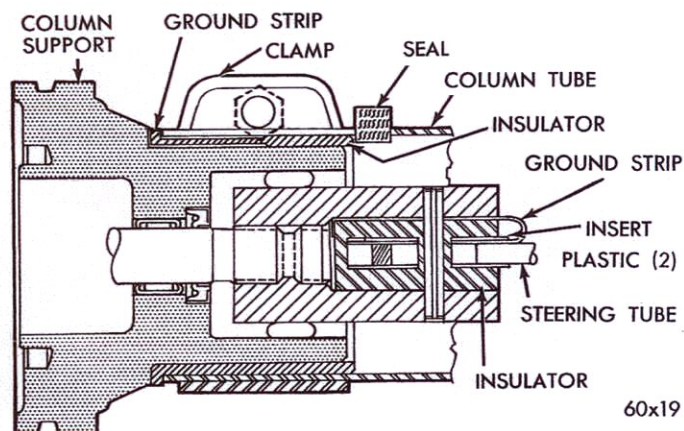

Fig. 14 - Jacket Tube Support and Steering Column Tube (Cross Section)
(14) Remove the steering column tube coupling pin, two plastic inserts, horn ground strap (Fig. 14) rubber insulator and the steering column tube.
(15) Remove the rubber insulator boot and the horn ground strap.